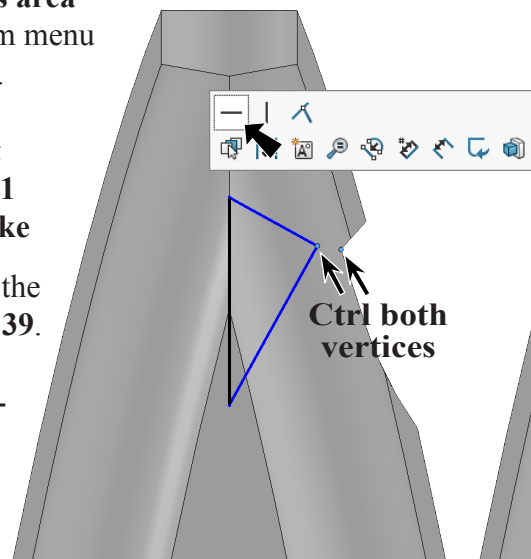

Fig. 39
Step 9. Click **Extruded Cut** vertex and **Position 1** vertex and click **Make Horizontal**  on the context toolbar, **Fig. 39**.
Step 10. Click **Smart Dimension**  (S) on the Sketch toolbar.